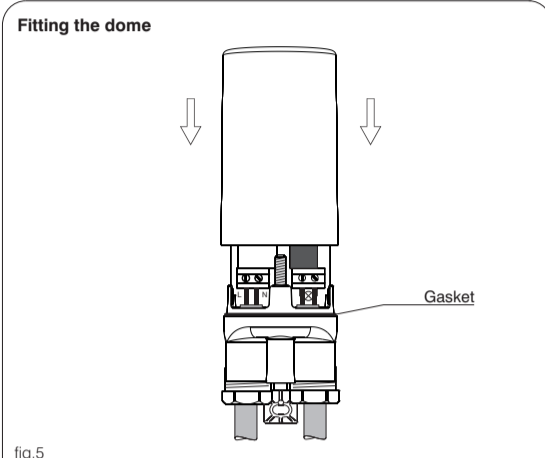

fig. 5
- position the dome (fig. 5) and press down until the captive screw is engaged.